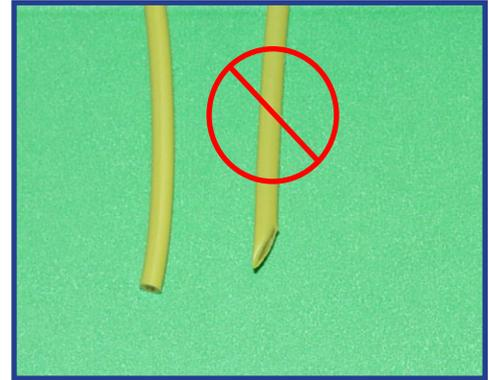

Figure 23 - Correct, square cut on left; incorrect cut on right.
2. Use a razor blade or sharp knife to cut a minimum of 1 m (3 ft) from the end of the NONEL Lead Line spool to minimize the effect of moisture contamination in the shock tube. Make sure the cut is square (Figure 23).